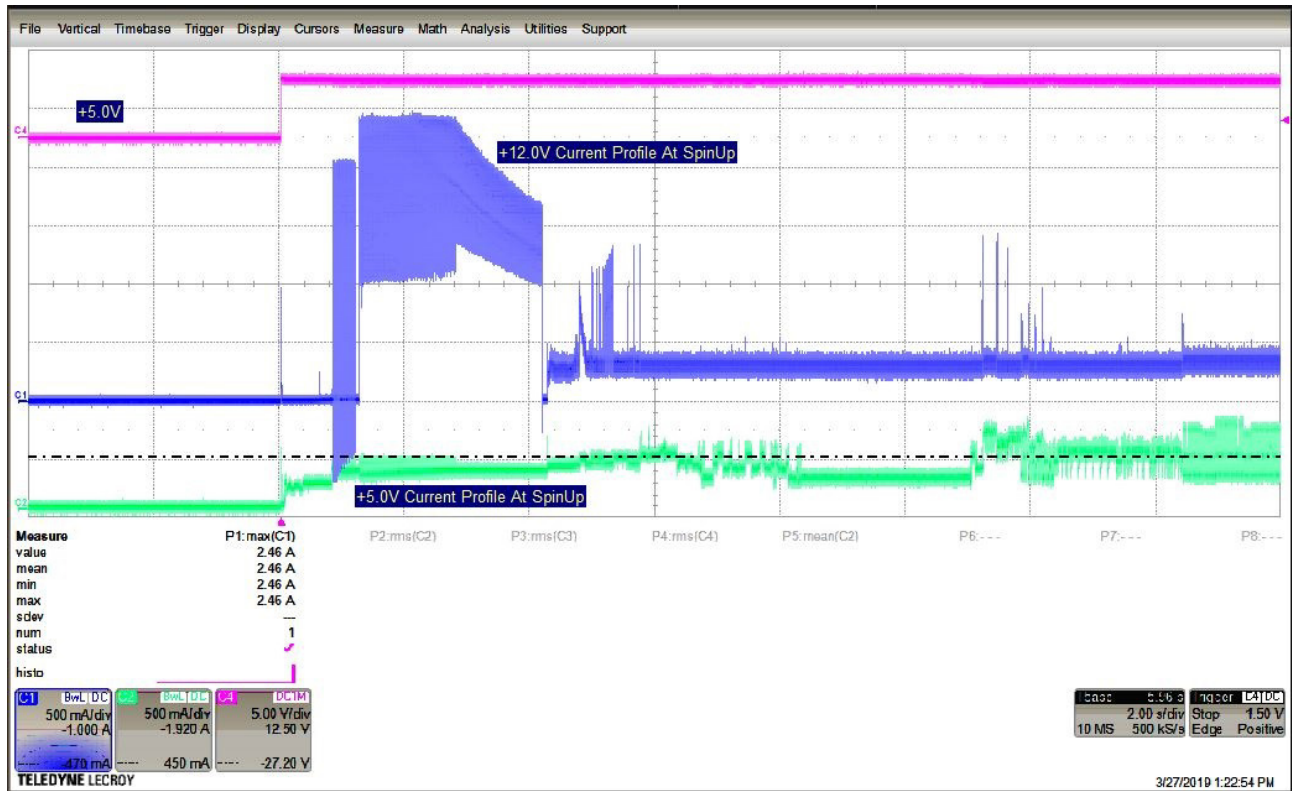

Figure 4. 2TB model current profiles
- [3] See +12V current profile in Figure 1 through Figure 4 (for 8TB through 2TB models)